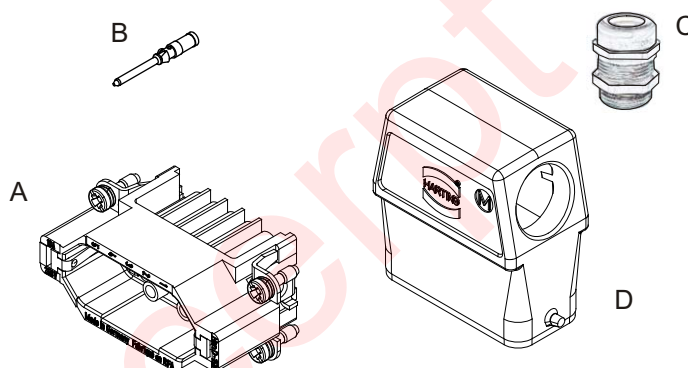

Figure 176: Components required for REMOTE connector
- 1 Crimp terminal HAN-15D, 15+PE, male, 10A (Harting part no.: 09 21 015 3001; see Figure 176, A)